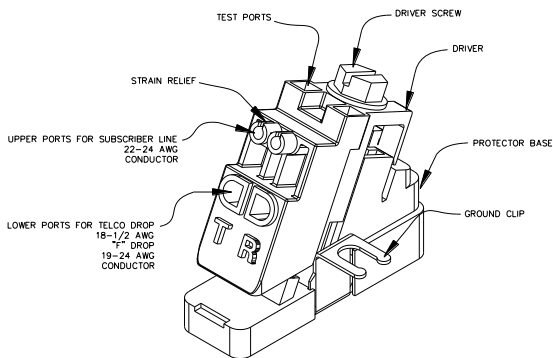
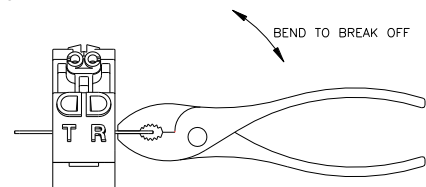

Figure 1
Figure 3
1. The Angle Driver (Sealed IDC Protector) is delivered with a universal grounding and mounting tab (See Figure 1). If installing a new module into a NID, break away the unwanted ground tab from the module using a pair of pliers and discard (See Figure 3). Binding post protectors do not require this step. Simply Install the module on desired NID ground post and secure with washer and nut.